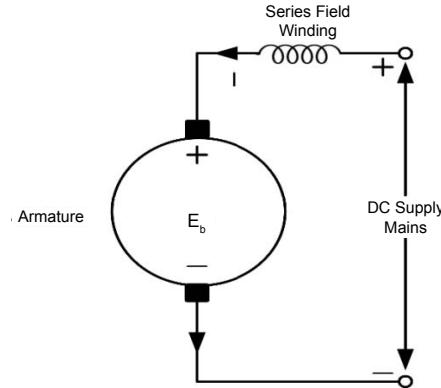

Fig. 6.8: DC series motor
- i. **DC series motor:** A series motor is one in which field winding is connected in series with the armature as shown in Fig. 6.8 that the current drawn by the motor passes through the field winding as well as armature. Field winding has a few turns of thick conductors. Magnetic flux varies with current till saturation.
i. DC series motor: The torque equation is given as $T \propto \Phi I_a$. For a series motor as shown in Fig. 6.8, the same current flows in the field winding as well as in the armature winding. So, up to magnetic saturation, the field flux $\Phi \propto I_a$ and therefore the torque developed is